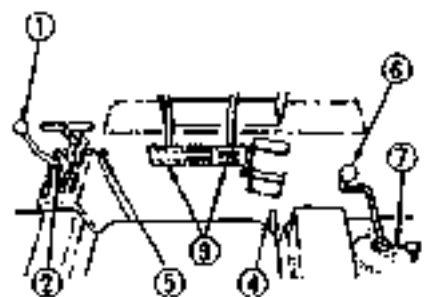

Fig. 4-7
4.9 Stopping the machine temporarily (Fig. 4-7)